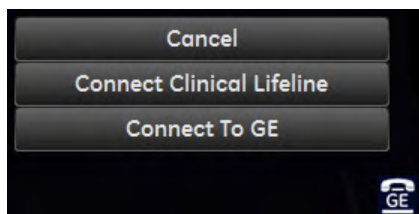

Figure 7-11 Connect Clinical Lifeline
3. Select *Connect Clinical Lifeline* (see: Figure 7-11 below). This activates “Disruptive Mode” and “VCO” for the application OLC to quickly assist the customer.